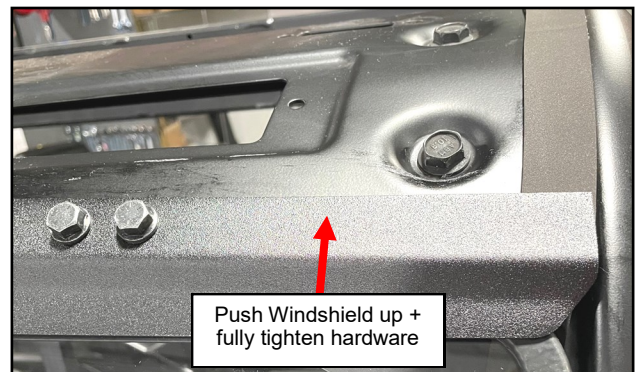

Fig. 2.4 (Fully Tighten Down W/S Hold Down Bracket)
2.4 Per figure 2.4, push-up on the bottom edge of the windshield and fully tighten down W/S Hold Down Bracket. If needed, you can adjust lower mounting brackets to get a proper seal on the windshield. Once the seal looks good, fully tighten down the lower mounting bracket hardware (both through W/S and ROPS tabs). The kit is now fully installed.